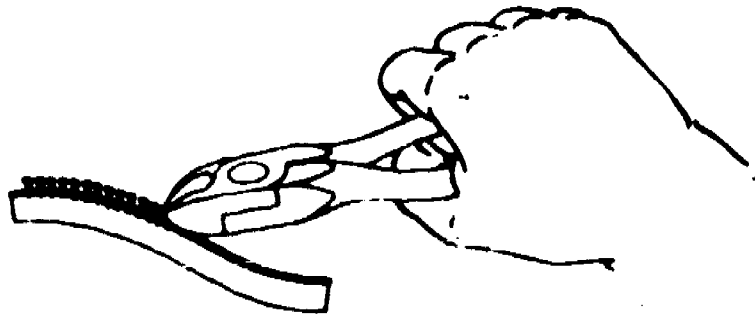

Figure 10. Removing Scoops with Diagonal-Cutting Pliers.
2. Mark the 1 1/2 inch allowance on each end of the fastener tape. Remove the scoops from each end to the point marked. Use diagonal cutting pliers for removing scoops (figure 10).